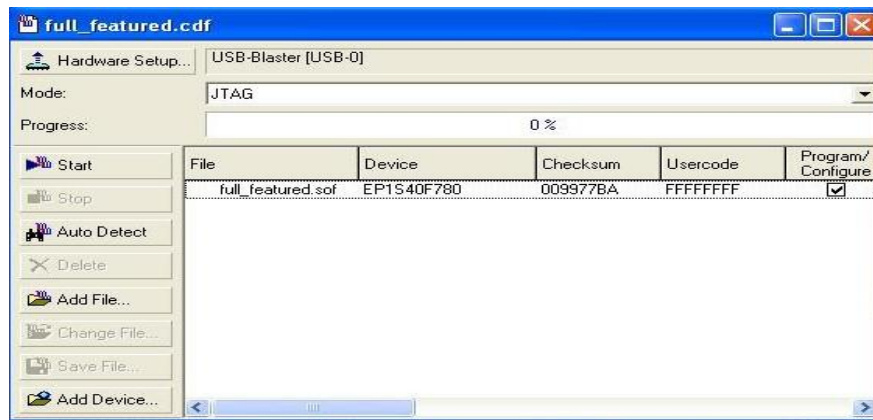

Figure 14: Programmer Set up
3. In the Programmer window, make sure that the hardware setup... has been set up as USB-Blaster (refer to Figure 14).